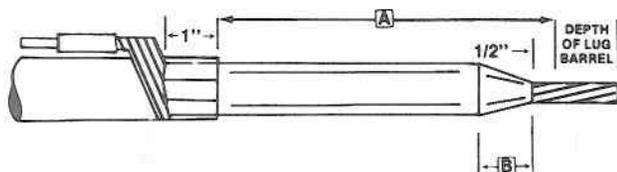

FIGURE 2
1. Prepare cable according to Figure 2 and Table II.
2. Pull back drain wires to dimension as shown in Figure 2.